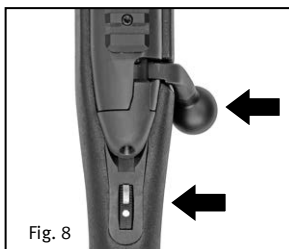

Fig. 8
Lock Position + Firing Pin Safety (Fig. 8):
2. When reinserting the bolt into the receiver the rotary safety will be in “Lock” position (Fig. 8). Hold the bolt by the bolt handle and insert it into the receiver. When inserting the bolt, rotate the bolt so that the bolt handle slides into the slot of the receiver.